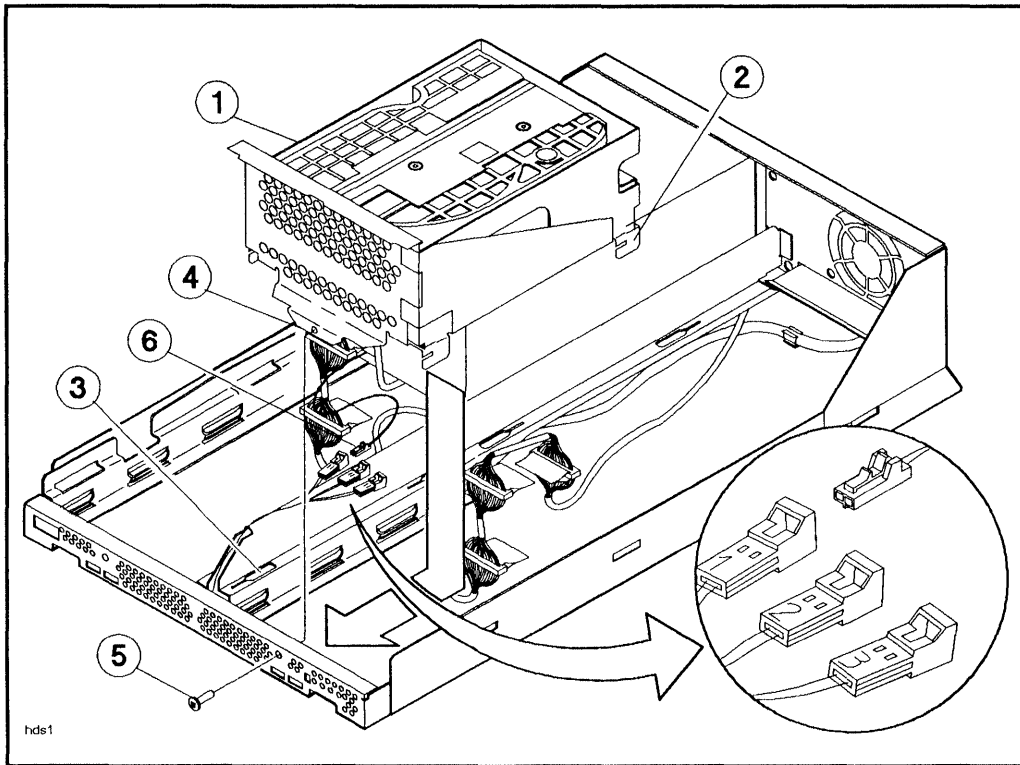
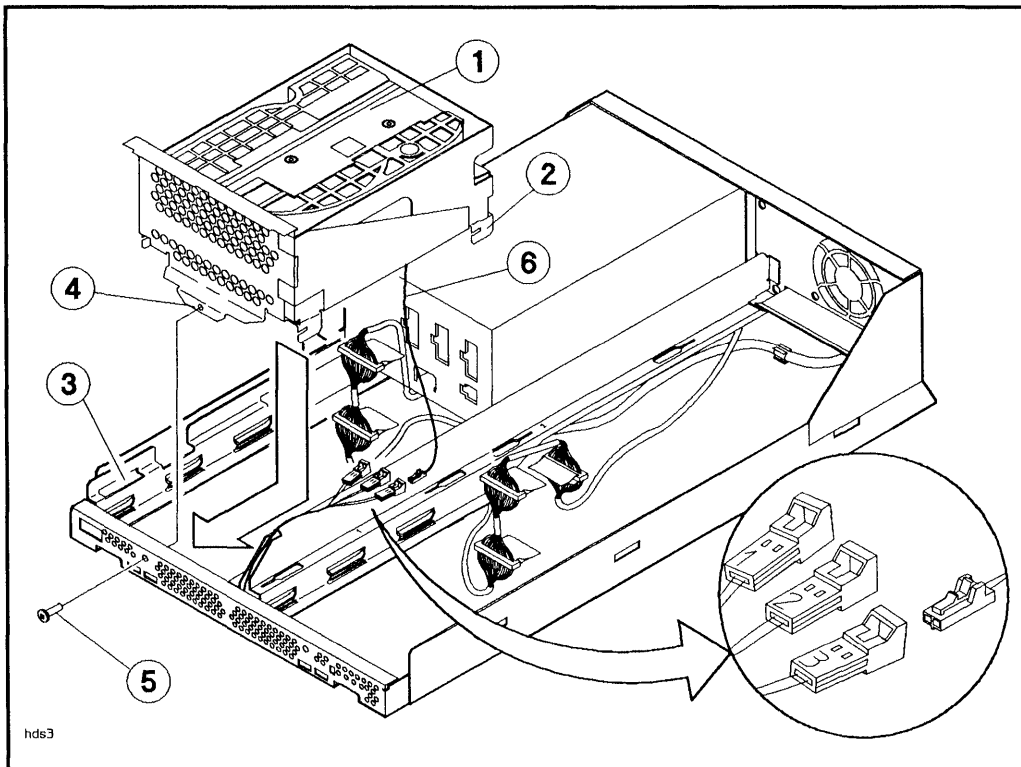

Figure 2-3. Installing the 5.25-inch Hard Disk Drive into Slot 1
Figure 2-5. Installing the 5.25-inch Hard Disk Drive into Slot 3
- If you are installing the drive into slot 1 or slot 3 (the front slots), push down on the drive and slide it on the chassis rails toward the front of the mass storage system chassis until the mounting tabs lock into the mounting slots (see Figure 2-3 or Figure 2-5). Tighten the T25 bracket screw through the hole in the front of the mass storage system chassis and into the drive bracket.